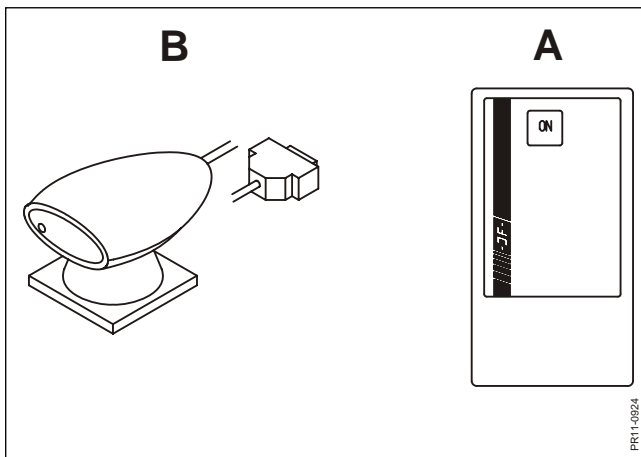

Fig. 7-6
Fig. 7.6 This menu point makes it possible to send data to PROFEED or receive data from PROFEED. A condition is that you have got an infrared hand terminal (A) and a receiver/transmitter (B), which must be connected to the PC to be communicated with. The equipment makes it possible to transfer non-existing feed means to the PROFEED system. Regarding Ordering Numbers: see spare parts list.